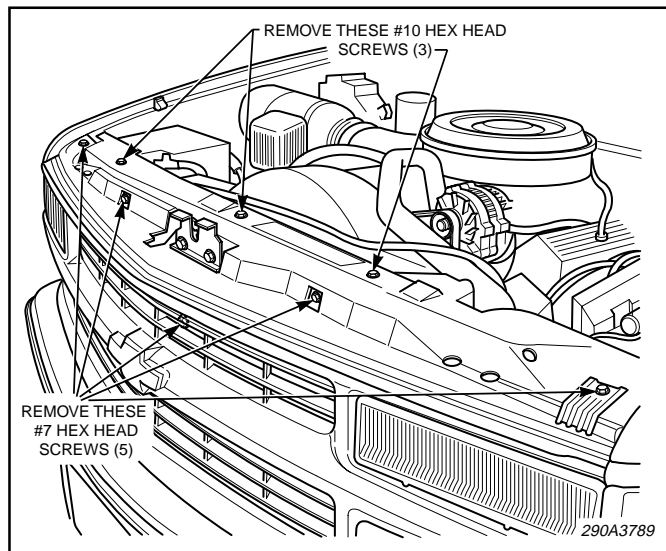

Figure 1.
1. Raise the vehicle hood. See figure 1. Locate the five #7 hex head screws which secure the grill assembly to the vehicle. Remove and retain the five screws. Pull the grill forward away from its mounted position.